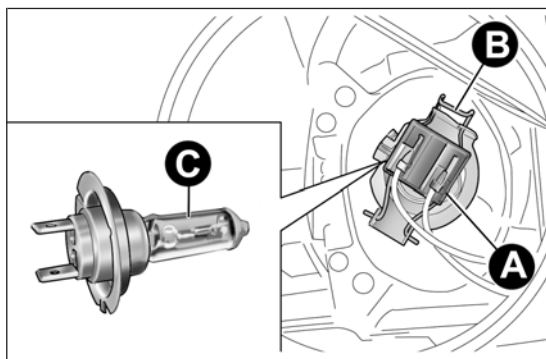

fig. 142
- remove the connector A fig. 142, press the tab B forward and then release by pushing it towards the inside the car;